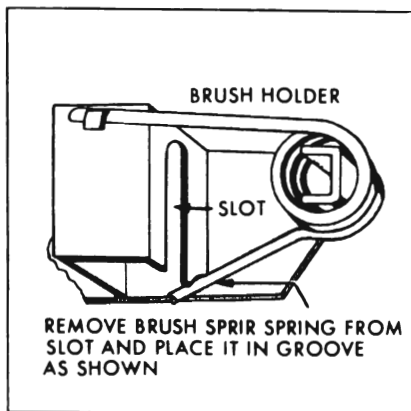

Figure 10-106—Releasing Brush Holder Spring Pressure
(1) Open armature.
(2) Brushes sticking.
(3) Brush springs improperly positioned (See Figure 10-106).
2. Release brush spring pressure against brushes as shown in Figure 10-106.